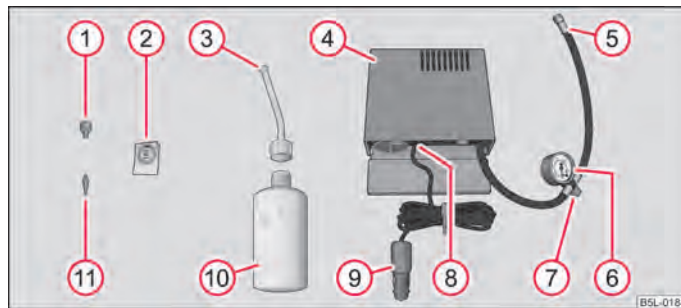

Fig. 172 Components of the tyre repair kit
- Stick the sticker (2) ⇒ fig. 172 on the dash panel in view of the driver.
- Use the valve remover (1) to remove the valve core and place it down on a clean surface.
- Forcefully shake the tyre inflator bottle (10) ⇒ fig. 172 several times.
- Firmly screw inflation hose (3) onto the tyre inflator bottle in a clockwise direction (10). The film on the cap is pierced automatically.
- Remove the plug from the inflation hose (3) and plug the open end fully into the tyre valve.
- Hold the bottle (10) with the floor facing upwards and fill the whole sealing agent in the tyre inflator bottle into the tyres.
- Screw the valve core back into the tyre valve using the valve remover (1).
- Screw the tyre inflation hose (5) ⇒ fig. 172 of the air compressor firmly onto the tyre valve.
- Check whether the air release valve (7) is closed.
- Insert the plug (9) into the 12 Volt socket. ⇒ page 79
- Switch on the air compressor with the ON and OFF switch (8).
- Allow the air compressor to run until reaching a pressure of 2.0 - 2.5 bar. Maximum run time of 8 minutes ⇒ (1)!
- If you cannot reach an air pressure of 2.0 - 2.5 bar, unscrew the tyre inflation hose (5) from the tyre valve.
- Screw the tyre inflation hose of the air compressor (5) firmly back onto the tyre valve and repeat the inflation procedure.